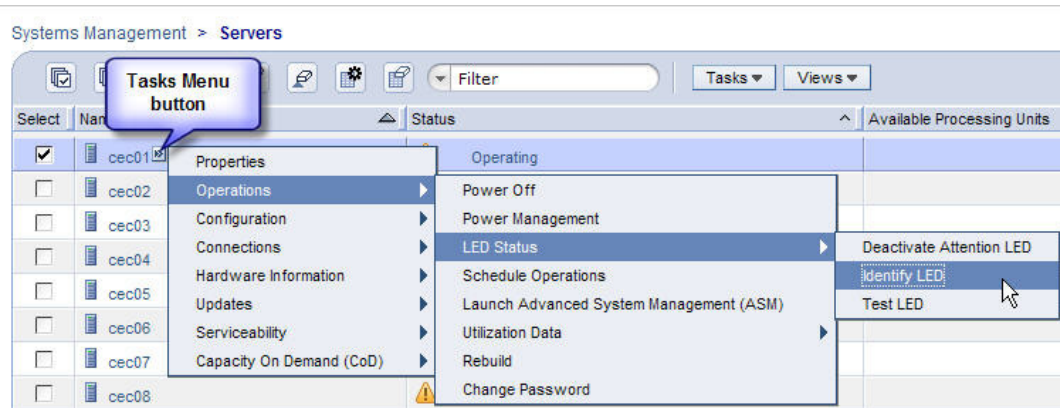

Figure 3 Identify LED Selection
STEP 4 From the **Tasks** menu *select* **Operations -> LED Status -> Identify LED**. See Figure 3.